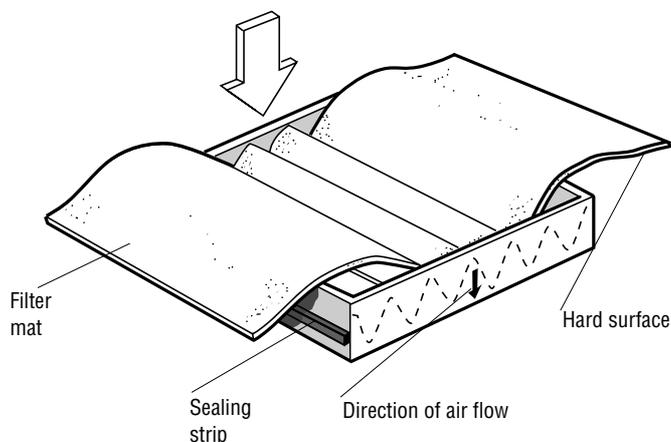

Fig. 4
- F. Place the new or cleaned filter mat onto the cassette and press it down. Start in the centre of the cassette as shown in Fig. 4.
Caution! Cleanable filter mats must be inserted with the hard surface facing downstream in the direction of air flow (see Fig. 4).